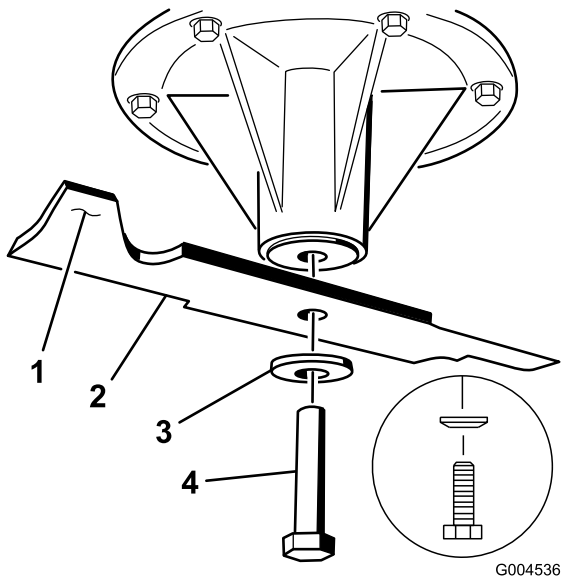
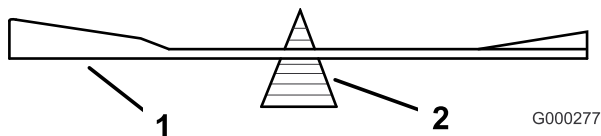

Figure 77
Figure 79
2. Remove the blade bolt, curved washer, and blade from the spindle shaft (Figure 77).
2. Check the balance of the blade by putting it on a blade balancer (Figure 79). If the blade stays in a horizontal position, the blade is balanced and can be used. If the blade is not balanced, file some metal off the end of the sail area only (Figure 77). Repeat this procedure until the blade is balanced.